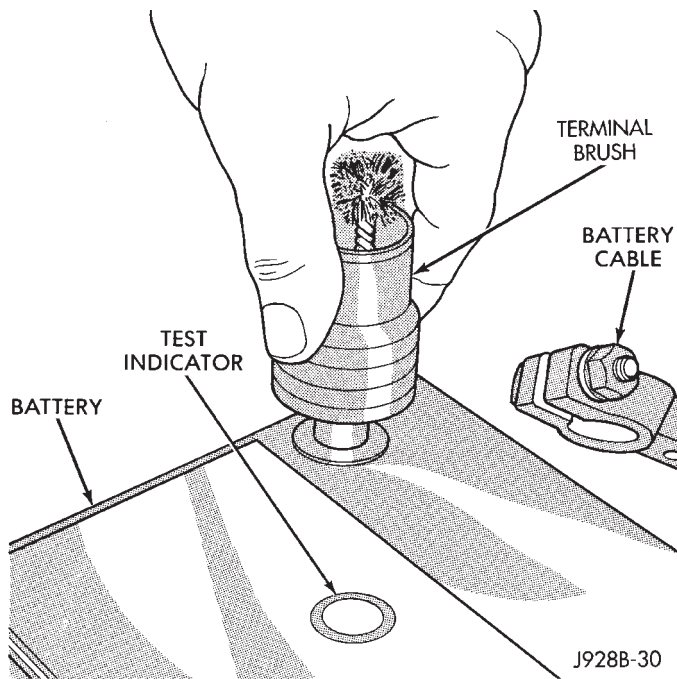

Fig. 3 Cleaning Battery Post
(3) Remove corrosion from the terminals with a wire brush or post and terminal cleaner (Figs. 3 and 4). Inspect the case for cracks or other damage that would result in leakage of electrolyte.